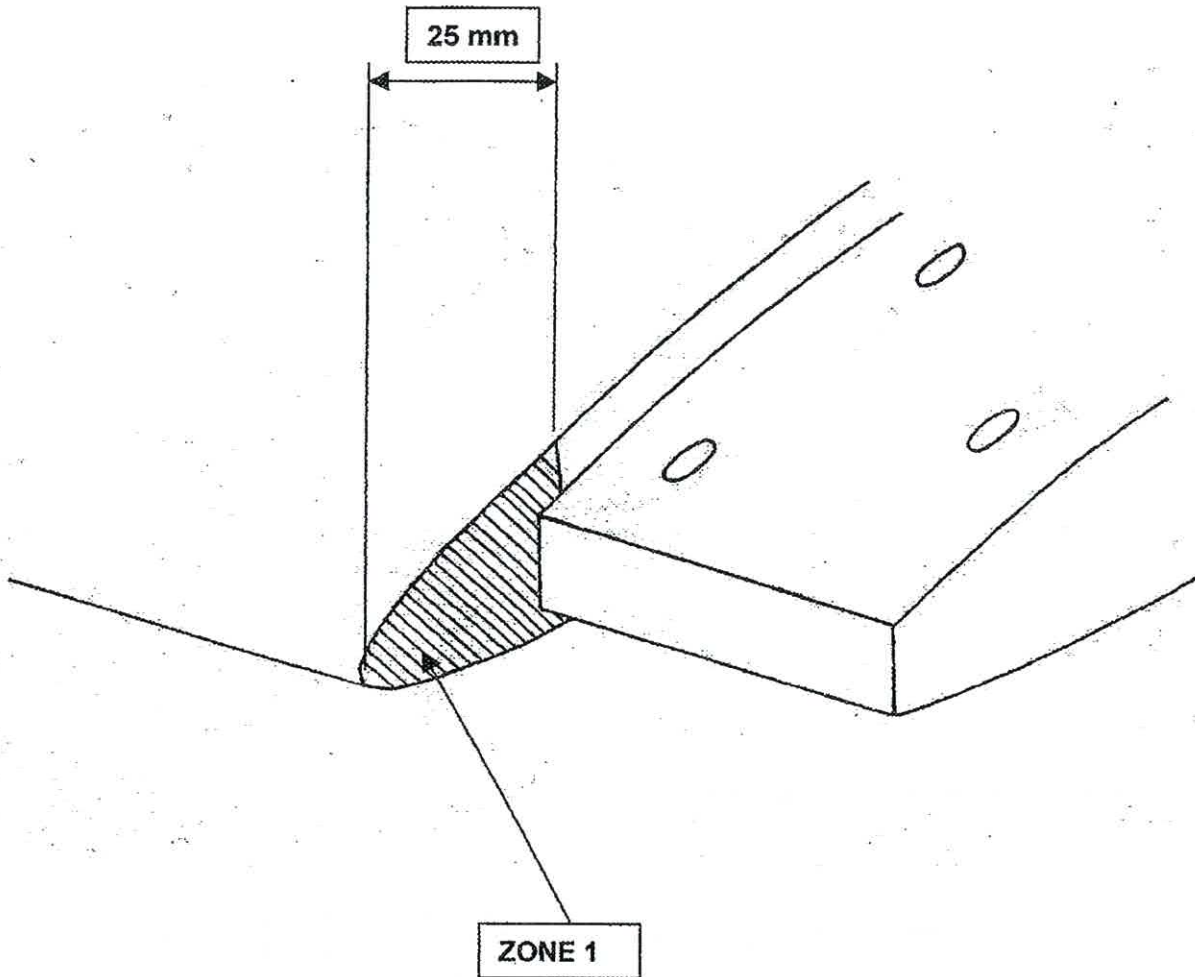

Figure 7
- Check that there is no erosion in leading edge zone 1 (Refer to Figure 7):